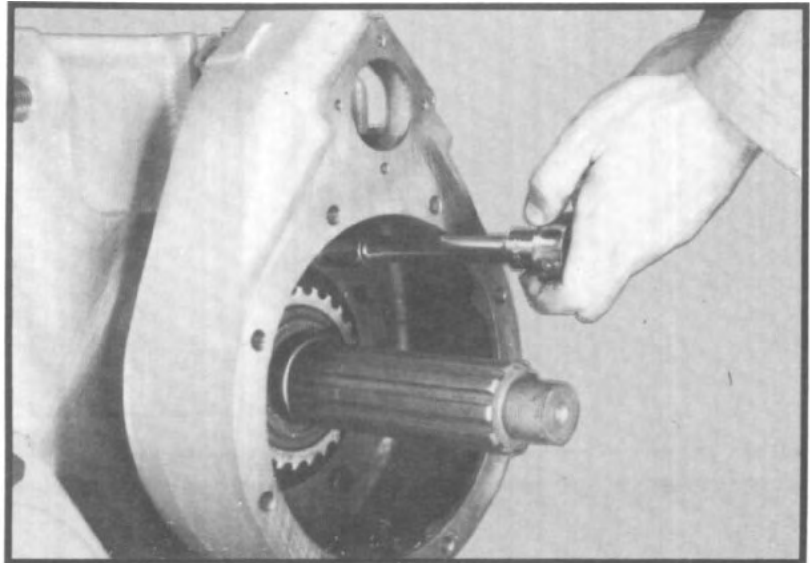

Fig. 160
1. Assemble the lockout housing and gasket to the front of the transfer case with the six cap-screws. Be sure to align oil passages. (See fig. 160.)